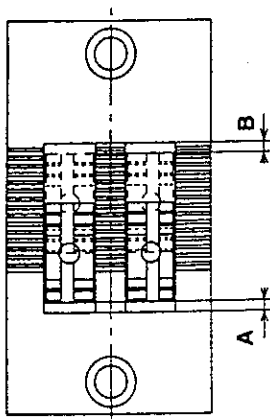
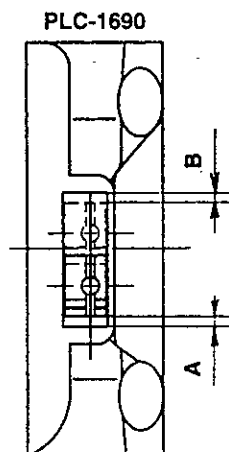

Fig. 5
Fig. 6
<ol style="list-style-type: none"> 1) Set the stitch dial to the maximum value. 2) Turn the handwheel by hand, and confirm that the clearance (A and B in Fig. 5, Fig. 6) between the feed dog and the slot on the throat plate is equal when the feed dog travels to the front end or to the back end. 3) When the clearance is not equal, loosen setscrews ① in the feed rocker so that the feed rocker works equally, and tighten the setscrews. 	<ul style="list-style-type: none"> ○ The throat plate comes in contact with the feed dog. As a result, contacting noise will be produced.